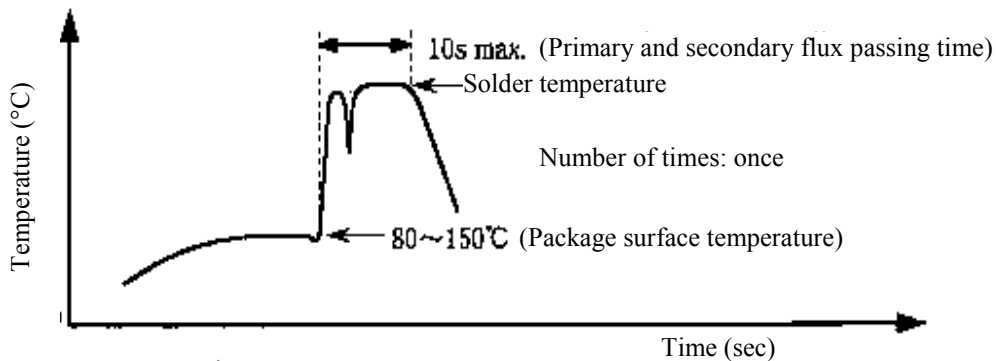

Fig.2 Wave soldering method temperature profite
- [Temperature] The temperature profile is shown in Fig. 2.